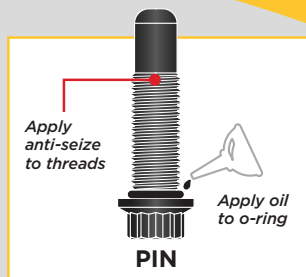

Fig.1
- 1** Inspect each pin to make sure it has an O-ring and that the threads are in good condition. Apply a light amount of anti-seize to the threads of each pin. Apply a small amount of oil to the O-ring of each pin. [Figure 1]